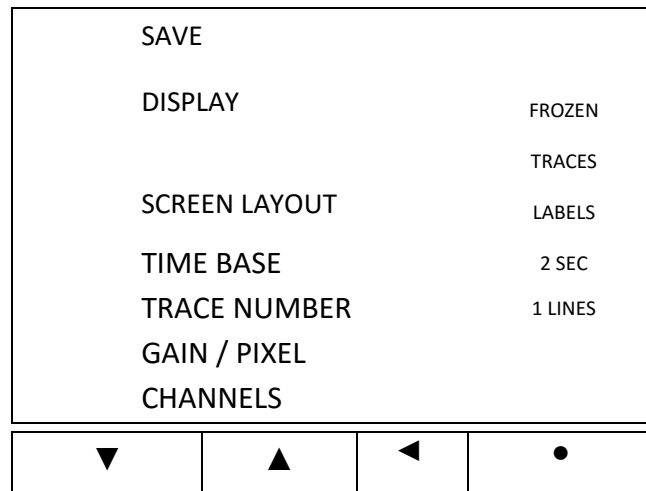

Figure 4. The SAVE-DISPLAY panel of TROMINO®.
- 11) Click any keys. The display illustrated in Figure 4 appears,